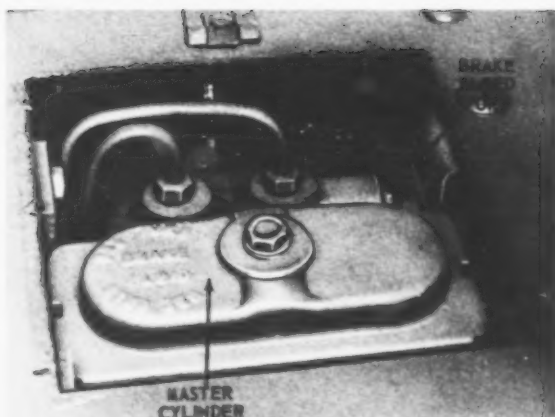
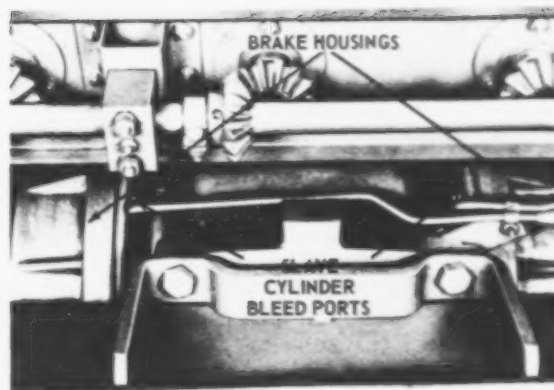

Fig. 40—Brake Master Cylinder Bleed Port
Fig. 41—Brake Slave Cylinder Bleed Ports
1. Locate the brake master cylinder (Fig. 40) and the slave cylinder (Fig. 41). The master cylinder is usually near the brake pedals and the slave cylinders are attached near each brake housing.
5. If the master cylinder has a bleed valve, bleed it first (Fig. 41).